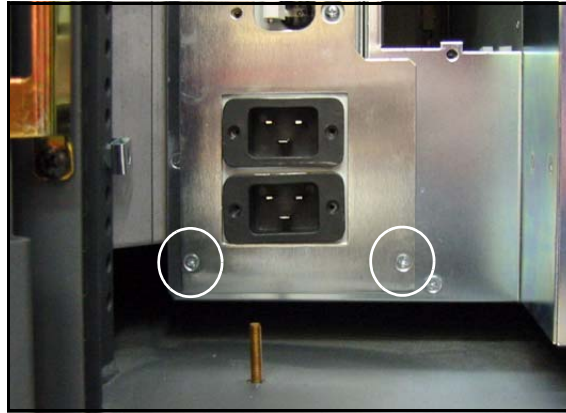

Figure 9 *The two screws in the bottom of the faceplate.*
- Use a #1 Phillips screwdriver to tighten the two beveled screws at the bottom of the faceplate (Figure 9).